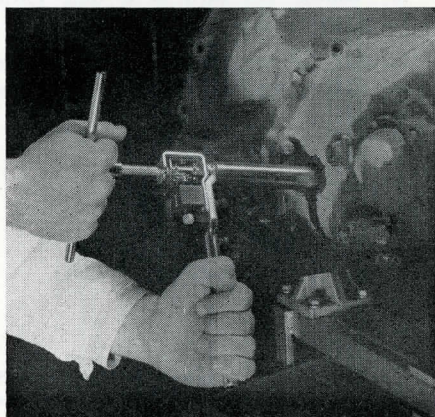

Figure 15
1. Tools used to adjust the low servo band is the band adjustment tool (ATC-50A or AT-50), and for model cars up to and including early 1953 models, a screw driver bit (AT-56) is used. For late model '53 cars to '57's, the 1/4" hex bit (AT-55) is used. Using the proper bit for the band adjustment tool, loosen the lock nut and tighten the screw with "T" handle clockwise until tight. Fig. 15.
2. With counter dial of the band adjusting tool set at 00, and gear shift button in "A" position, back-off adjusting screw by turning the "T" handle counter-clockwise 4 complete turns. With handle of band adjustment tool, tighten lock nut. Fig. 15.